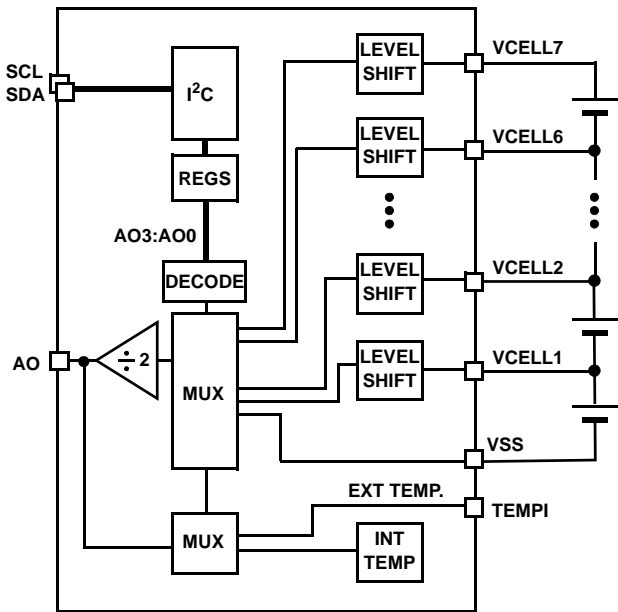

FIGURE 11. ANALOG OUTPUT MONITORING DIAGRAM
The ISL94208 devices can be used to externally monitor individual battery cell voltages and temperatures. Each quantity can be monitored at the analog output pin (AO). The desired voltage is selected using the I²C interface and the AO3:AO0 bits. See Figure 11 and Table 5 on page 18. *Remember to reset the AO3:AO0 bits to '0000' after measurements to minimize unnecessary current draw from the cells.*